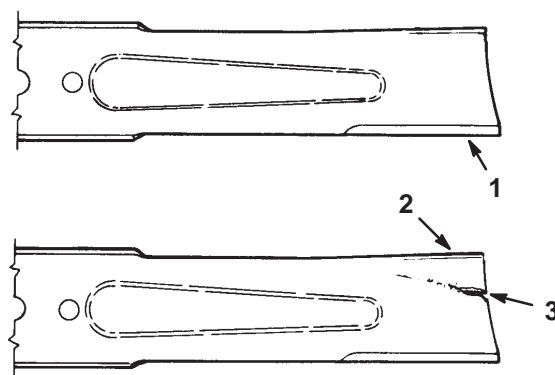

Figure 37
1. Inspect the cutting edges (Fig. 37). If the edges are not sharp or have nicks, remove and sharpen the blades. Refer to Sharpening the Blades on page 31.
2. Inspect the blades, especially the curved area (Fig. 37). If you notice any damage, wear, or a slot forming in this area (item 3 in Fig. 37), immediately install a new blade.